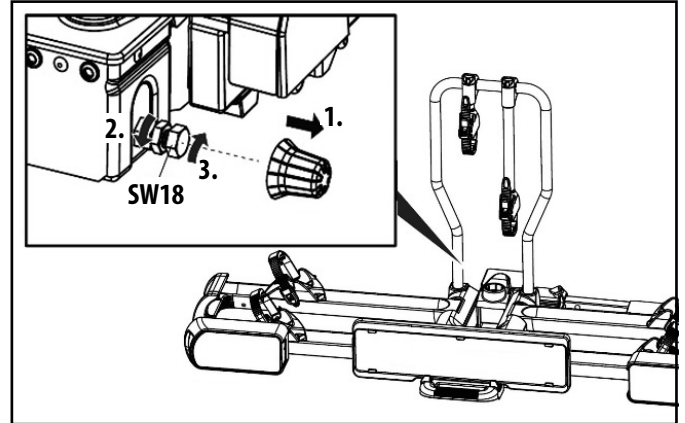

Figure 15: Adjustment of the quick lock
- Loosen the lock nut a little (Figure 15).
- Screw in the setting screw one quarter of a turn (Figure 15).